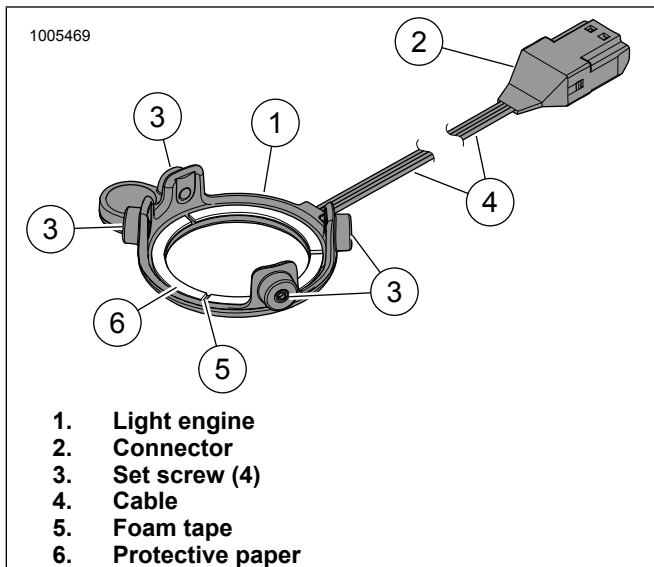

Figure 5. LED Light, Round Stage I Speaker
3. See Figure 5. Remove protective paper (6) from foam tape (5) on back of light engine (1).